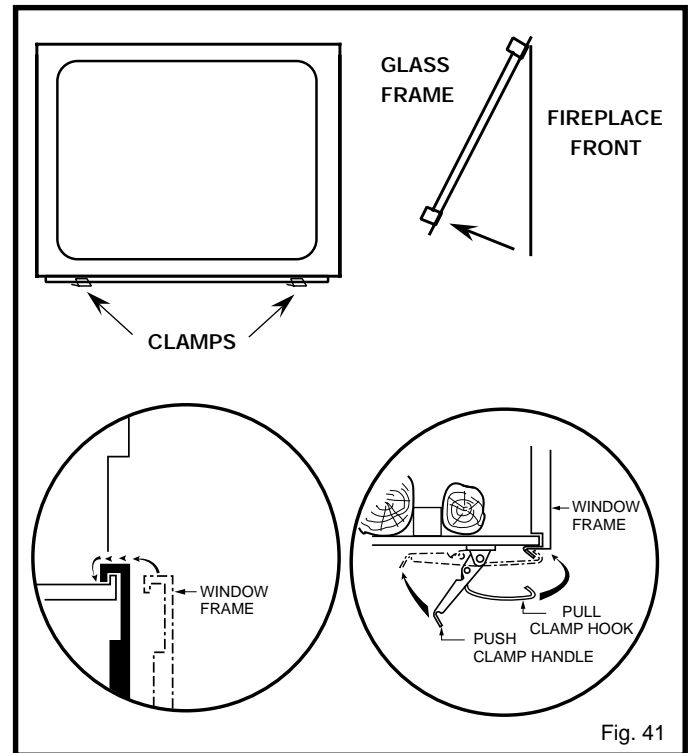

Fig. 41
7. To reinstall glass follow the above procedure in reverse. (Fig. 41)